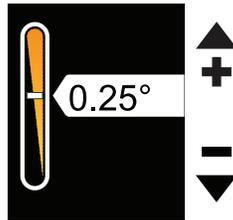

Figure 17: Set custom warming rate
2. If you select Set Custom, tap the Increase and Decrease buttons to set the rate (Figure 17 on page 30).